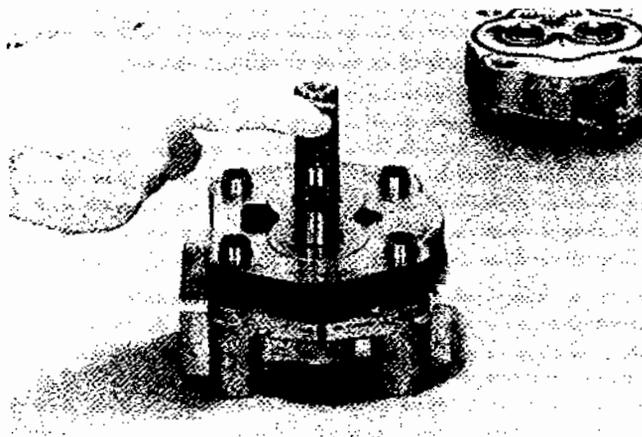

Fig. 21
25. If extension end of drive shaft is splined, coat splines with clean heavy grease to protect seal as flange plate (3) slides down shaft. If extension end is keyed, use a piece of tape to cover keyway to protect seal. (Fig. 21)